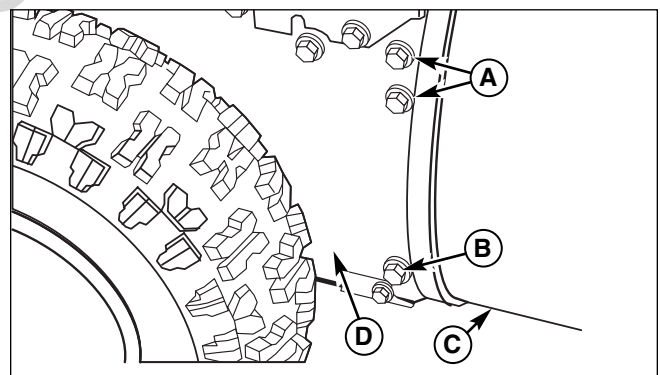

Figure 36. Frame and Axle Housing Splitting
12. Remove the upper four capscrews (A, Figure 36) that hold together the auger housing (C) and the frame (D). Loosen the lower two capscrews (B). The auger housing (C) and the frame (D) can now be split apart for removal of the belt.
15. Assemble the auger housing (C, Figure 36) to the frame with the four upper taptite screws (A) that were removed in step 12. Tighten the two lower taptite screws (B). Tighten all taptite screws to 40-50 lb-in (4,5-5,6 Nm).